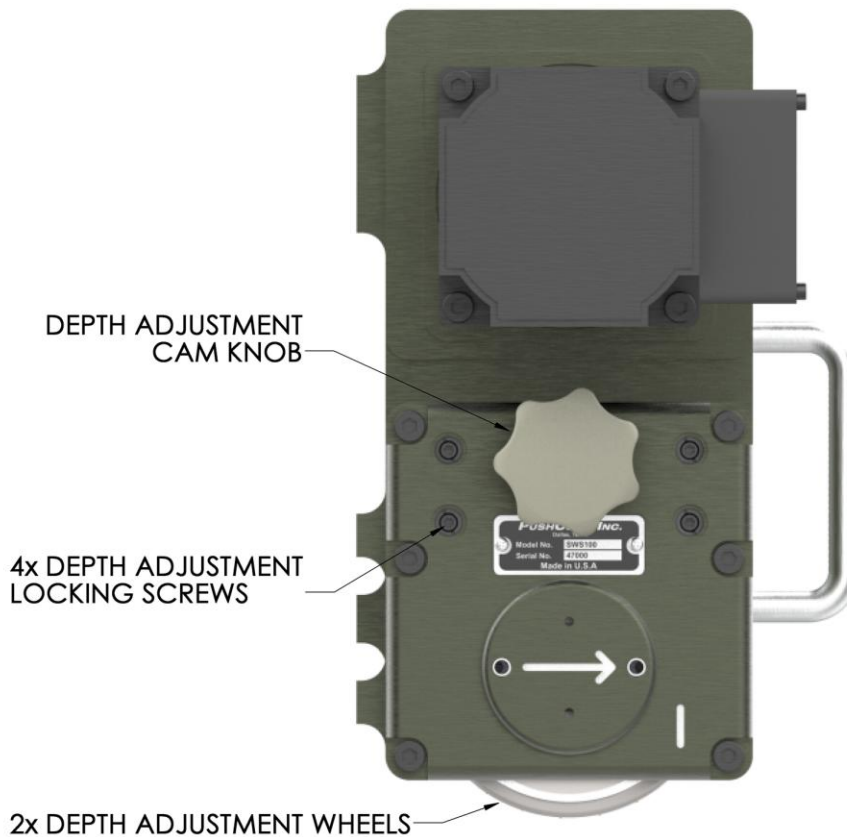

FIGURE 3: DEPTH OF CUT ADJUSTMENT
To manually adjust the depth of cut, first loosen the four (4) Depth Adjustment Locking Screws approximately 1/4 turn shown in Figure 3.